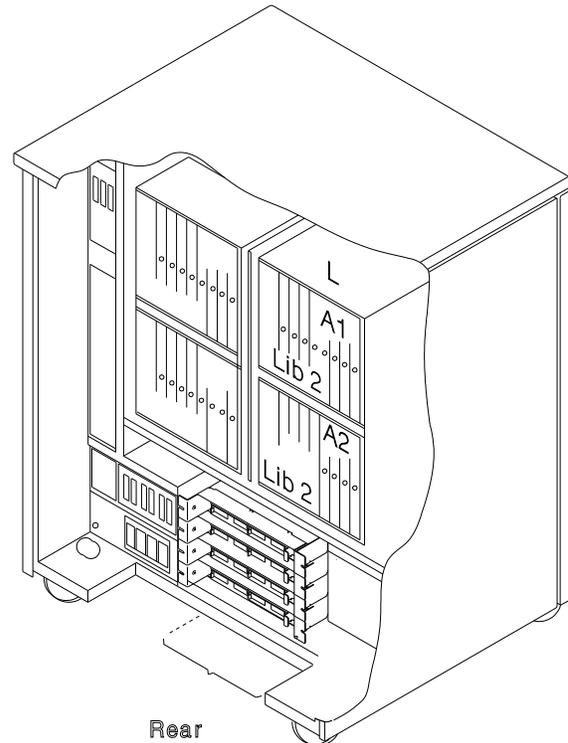

Figure 4-50. Location of the LIC Boards Type 2
2. For the board location, refer to Figure 4-50.